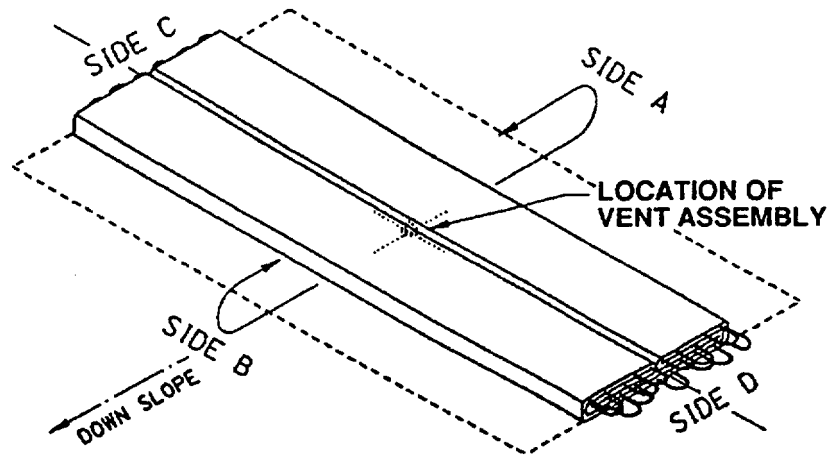

Figure 4-18. Double folded
- i. Repeat step h for side B (see figure 4-18.).